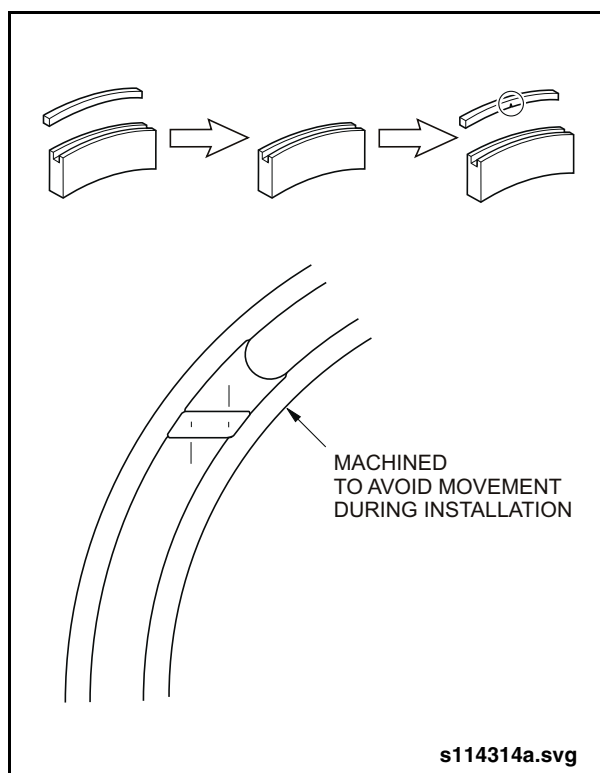

Fig. 7: Seal Installation
- b. Insert approximately half of the low pressure seal and then remove it to verify that a notch in the seal has been achieved. See “Fig. 7: Seal Installation” on page 6.